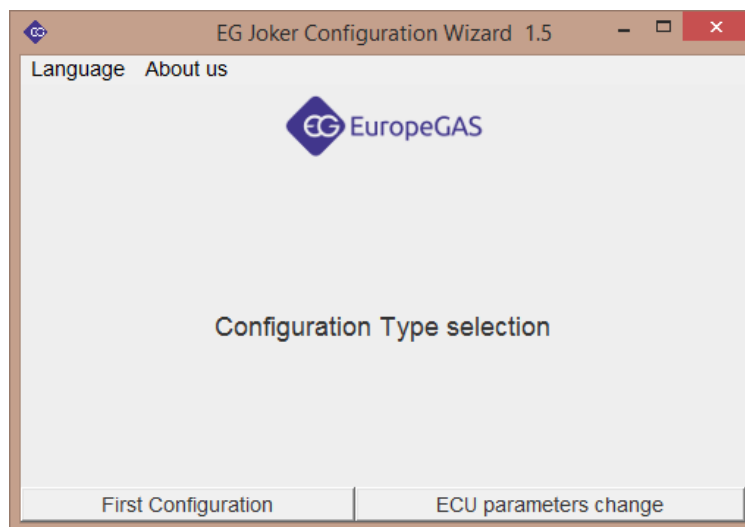

Fig. 2: Select configuration type.
3. We choose "First configuration" like on Fig 2. when we install EG Joker first time or "ECU parameters change" to reconfiguration device which has been already installed in the system (for example when we want connect to other ECU type).